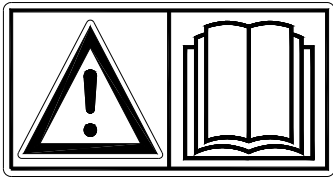

Fig. 1
**Read and understand** (Fig. 1) the manual before proceeding to use the Vibra-Sandmaster. Failure to use the machine as described in the manual can result in injury and/or damage to the Vibra-Sandmaster.
- (1) The Vibra-Sandmaster is solely intended for use on fields or other areas where grass can grow.